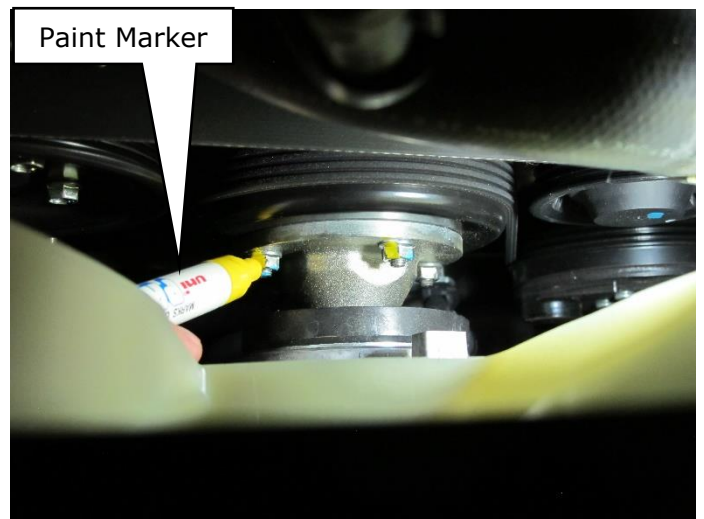

Figure 11
- A yellow paint marker is shown in Figure 11